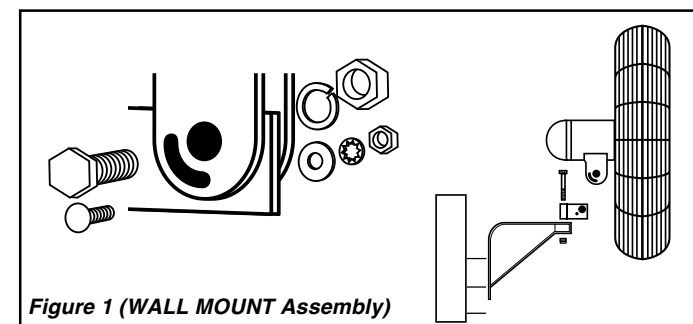

Figure 1 (WALL MOUNT Assembly)
1. Insert 7/16-14 x 3-1/2" Bolt through Flag Bracket, Wall/Ceiling Bracket and into the 7/16-14 Lock Nut as shown in the appropriate illustration. Tighten Nut finger tight. (Figure 1 or 2) The Bracket has two Holes; be sure Smaller Hole is as shown in the illustration.